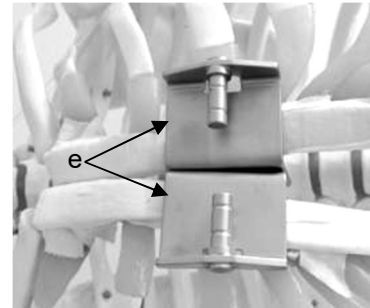

Fig. 11a
- 7 Depending on the purpose of surgery and the available space for assembly, the blades can be connected to the retractor body either before or after insertion into the saw gap. The latter option is the rule, especially in Z-incision sternotomies. Recommended procedure: insert the two blades (e) MRY-2, which have an extremely small 'lower lip', one after the other into the saw gap (see Fig. 11a).